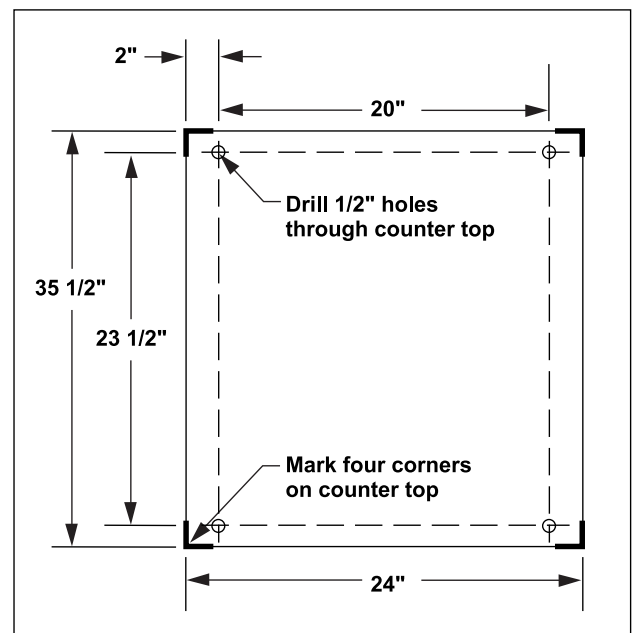

Figure 1.
1. Place steamer in the desired location on the countertop and mark four corners. Remove the steamer and drill 1/2" holes as indicated in Figure 1.